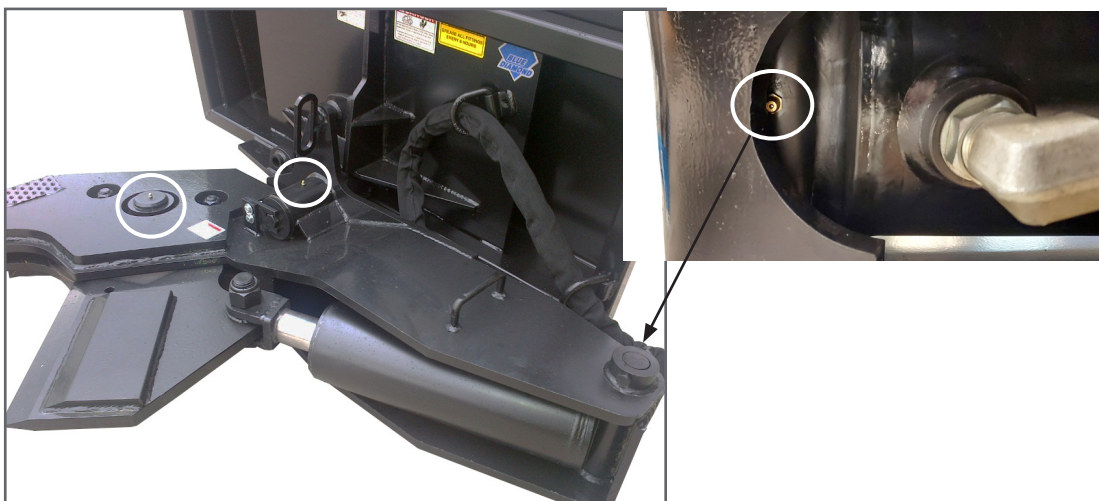

Figure 1
*See “Figure 1” on page 15 for greasing locations.